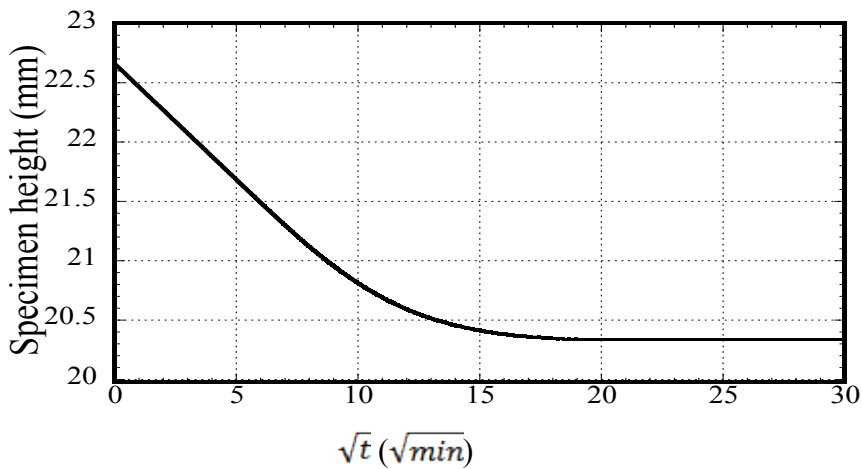

Fig. 3
- (c) The specimen height vs time for the load increment from 50 kN m^{-2} to 100 kN m^{-2} is shown in Fig. 3. Determine the value of the coefficient of consolidation, C_v . Assume double drainage for the specimen during the test. [10%]